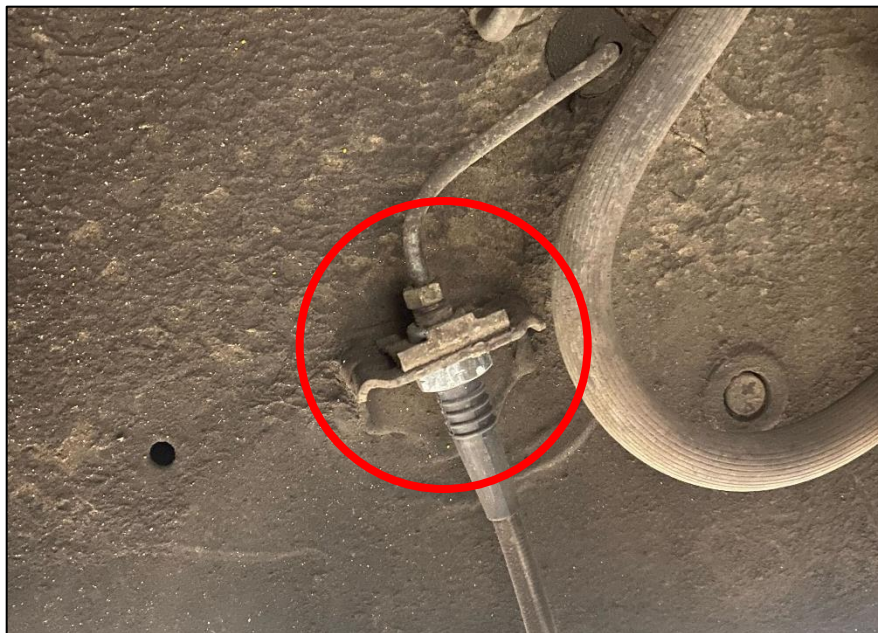

Figure 9
14. Locate the new Brake Line. If you have both Front and Rear Brake Lines, the Front Lines are the longer ones. Install the Open end into the Brake Hard Line on the Chassis and secure it with an OEM Retaining Clip. *Figure 9.*